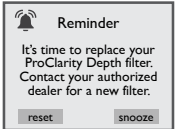

Figure 15.0f
22. ProClarity Depth Filter Reminder: This message will appear when the filter reminder time has expired (Figure 15.0f). The ProClarity Depth filter must be replaced.